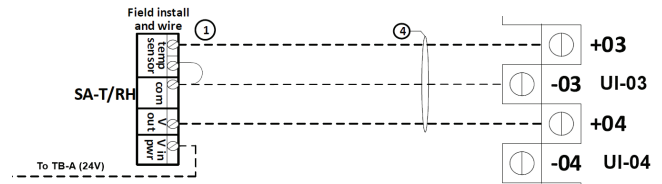

Fig. 73 – SAT/RH Controller Wiring
- Make the appropriate wiring connections at the controller. See Fig. 73.